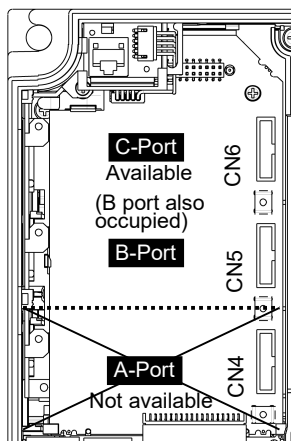

Figure 2.1 Option Connection Ports
- (1) Remove the front cover from the inverter and expose the control printed circuit board (control PCB). The PG interface card can be connected to the C-port (CN6) only. (Figure 2.1)